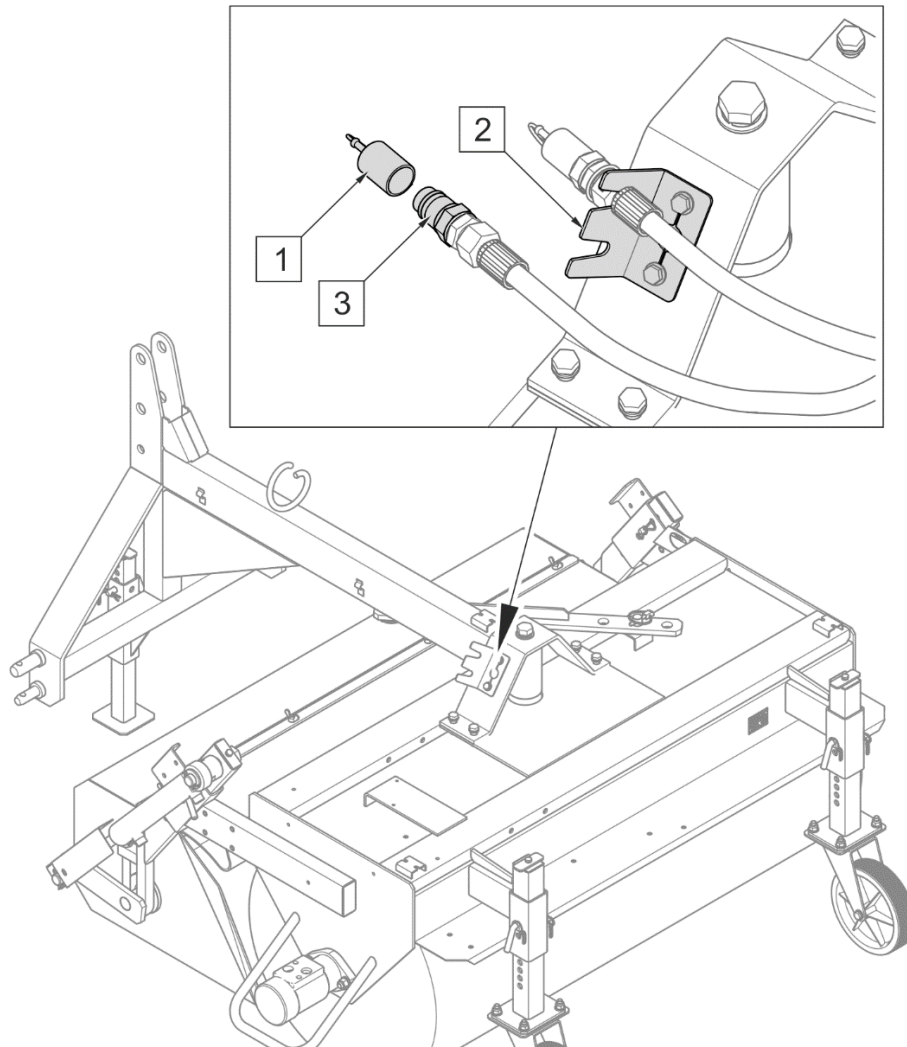

FIG. 4.13 Protection of plugs after disconnection from the carrying vehicle
- Lower the parking stand (1) and set it at a proper height.
- Disconnect hydraulic conduit plugs and electric lead plugs (if any) from the carrying vehicle and secure with stoppers. Place hydraulic conduit plugs in the special bracket on the frame (FIG. 4.13).